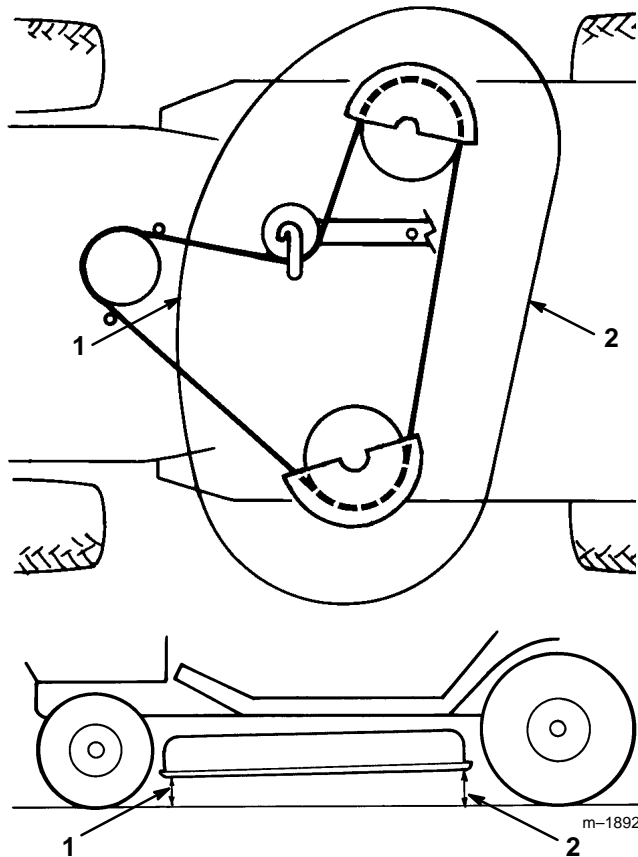

Figure 51
4. Check the front to rear slope by measuring between the bottom of the mower (front center and rear center) and the flat surface (Fig. 51). If the front is not within a range of 1/8”–3/8” (3.5mm–10.5mm) lower than the rear, an adjustment is required.
7. After adjusting both eyebolt lock nuts evenly, check the front-to-rear slope again. Continue adjusting eyebolts until the front blade tip is 0-3/8" (0-9.2 mm) lower than the rear blade tip (Fig. 51).